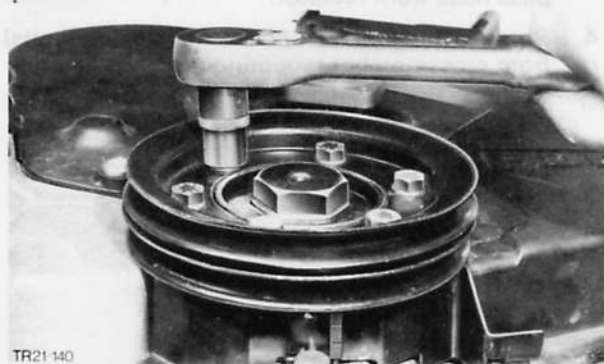

Fig. 143. Remove crankshaft pulley
10. Remove crankshaft pulley (6 bolts), Fig. 143.
11. Remove upper (5) and lower (2) toothed belt cover bolts and remove covers.